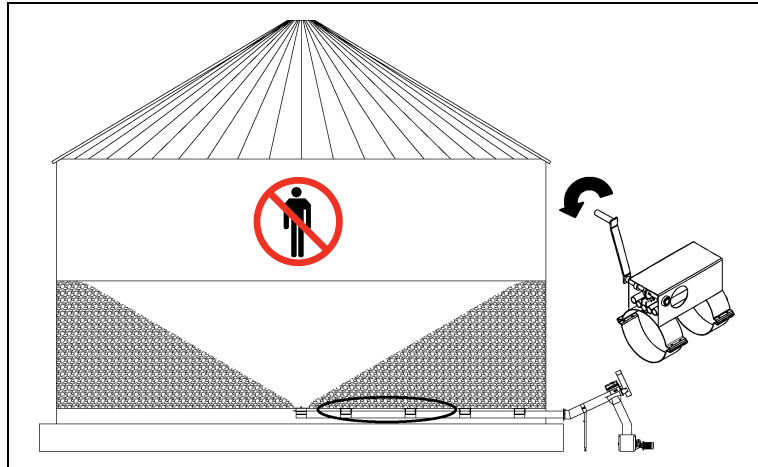

Figure 6C
3. Open inner intermediate wells when centre stops running. (See Figure 6C.)